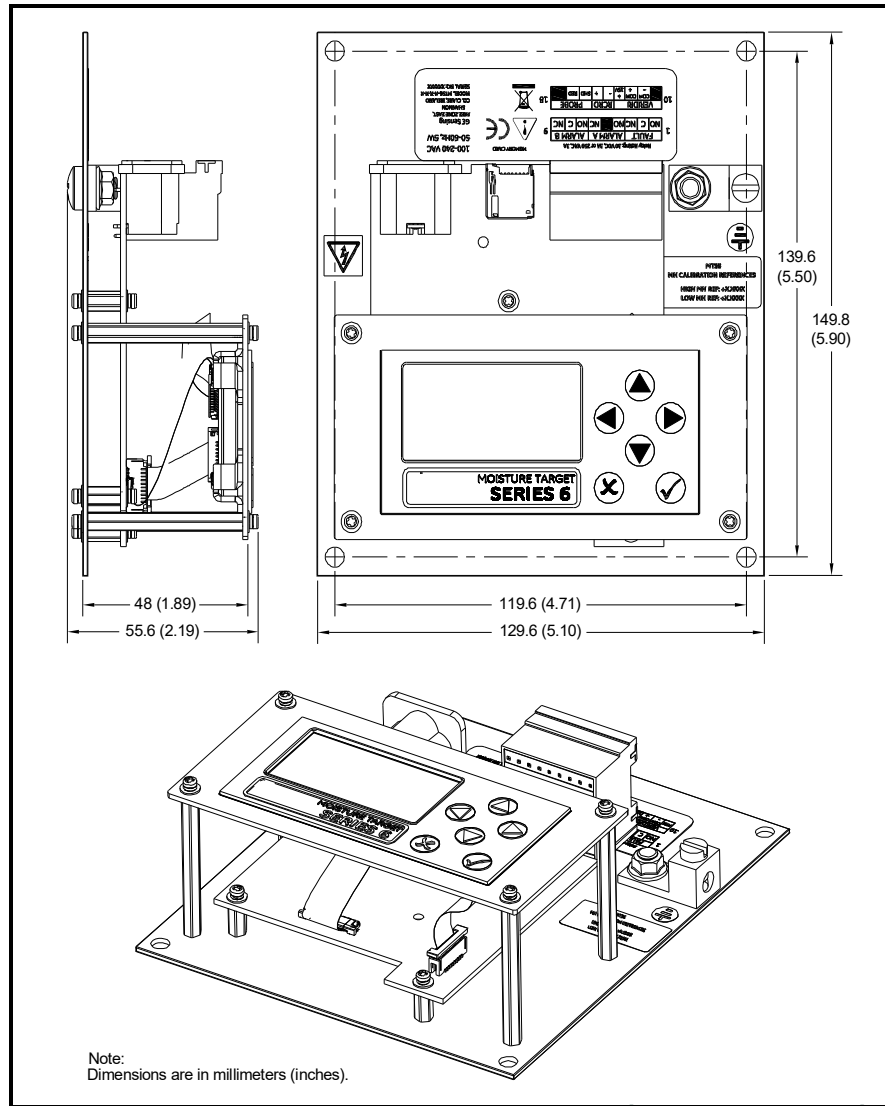

Figure 49: MTS6 Non-Enclosure Package Outline (ref. dwg #712-1687)
1. Mount the MTS6 package in an enclosed panel where no hazardous live wires are exposed. See Figure 49 for dimensions.